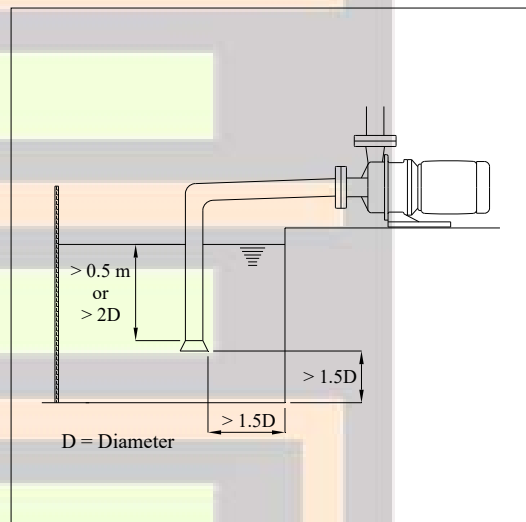

Fig. 4.4
Suction piping	(1) There should be at least a 1.5D distance between the suction pipe inlet and the closest tank wall to prevent circulation (see Fig. 4.4). (2) The submerge depth of the suction pipe inlet should be at least 0.5m or at least 2D below the liquid surface (see Fig. 4.4). (3) There should be a distance of at least 1.5D between the bottom of the tank and the suction pipe inlet (see Fig. 4.4). (4) If there are two or more inlet piping in the same tank, they should be placed at least 3D apart to prevent mutually disrupting each other's flow.